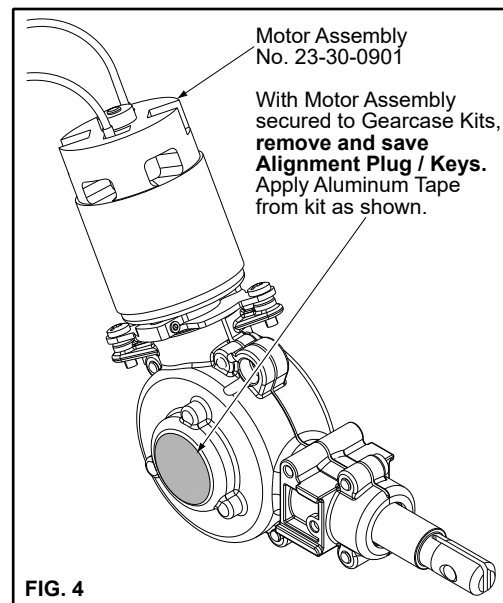

FIG. 4
11. Remove left and right alignment plug (s) and apply aluminum tape disc from kit to the right of gearcase (fig.4). **SAVE PLUGS incase motor needs servicing or replacing.**